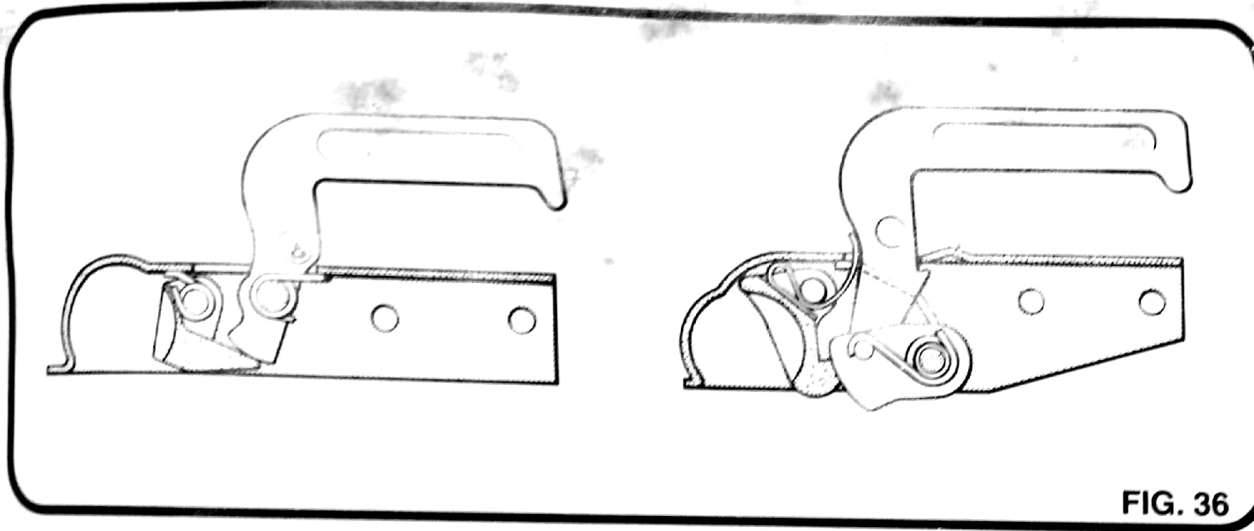

FIG. 36
2.6 Examine and Lubricate the Ball Coupling. (Fig. 36)